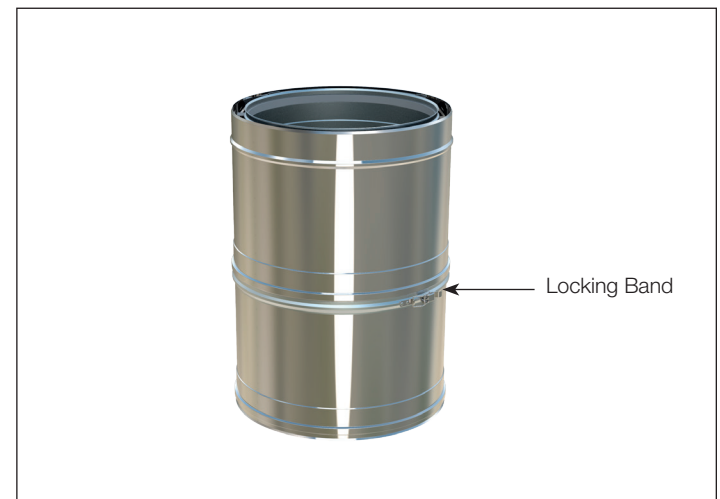

Fig 1-3: Securing joint with locking band
5. With the joint assembled, locate the Locking Band around the joint as detailed in Fig. 1-3. The Locking Band must be installed so that the toggle is only closed from left to right.